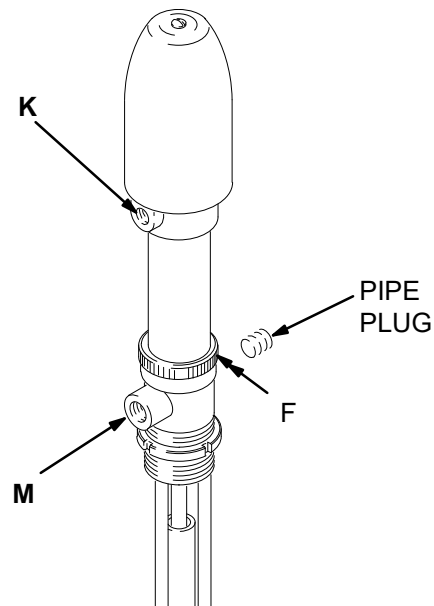

Fig. 3
Connect a grounded air supply hose (G) to supply air to the pump's 1/4 npt(f) air inlet (K). Connect a grounded fluid hose (H) to the 1/2 npt(f) fluid outlet (M). In a circulating system, remove the pipe plug and connect a fluid return line to the 3/8 npt(f) return port (F). See Fig. 3 and the Typical Installation drawing, Fig. 2.